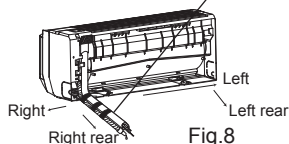

Fig.8
2. Take out the piping from body case, wrap the piping electric wire, water pipe with tape and pull them through the piping hole (As show in Fig.8)